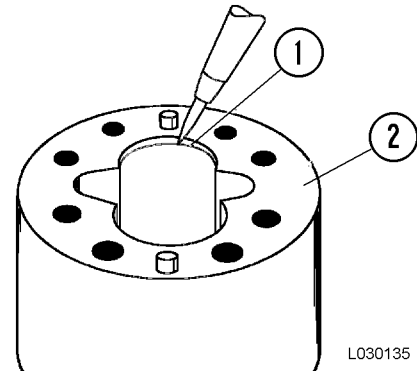

FIGURE 50-16. GEAR BORE INSPECTION
1. Inspect the gear bores in both gear plates (2, Figure 50-16). During the initial break-in, the gears cut into the aluminum gear plates. The nominal depth of this cut is 0.203 mm (0.008 in.) and should not exceed 0.381 mm (0.015 in.).